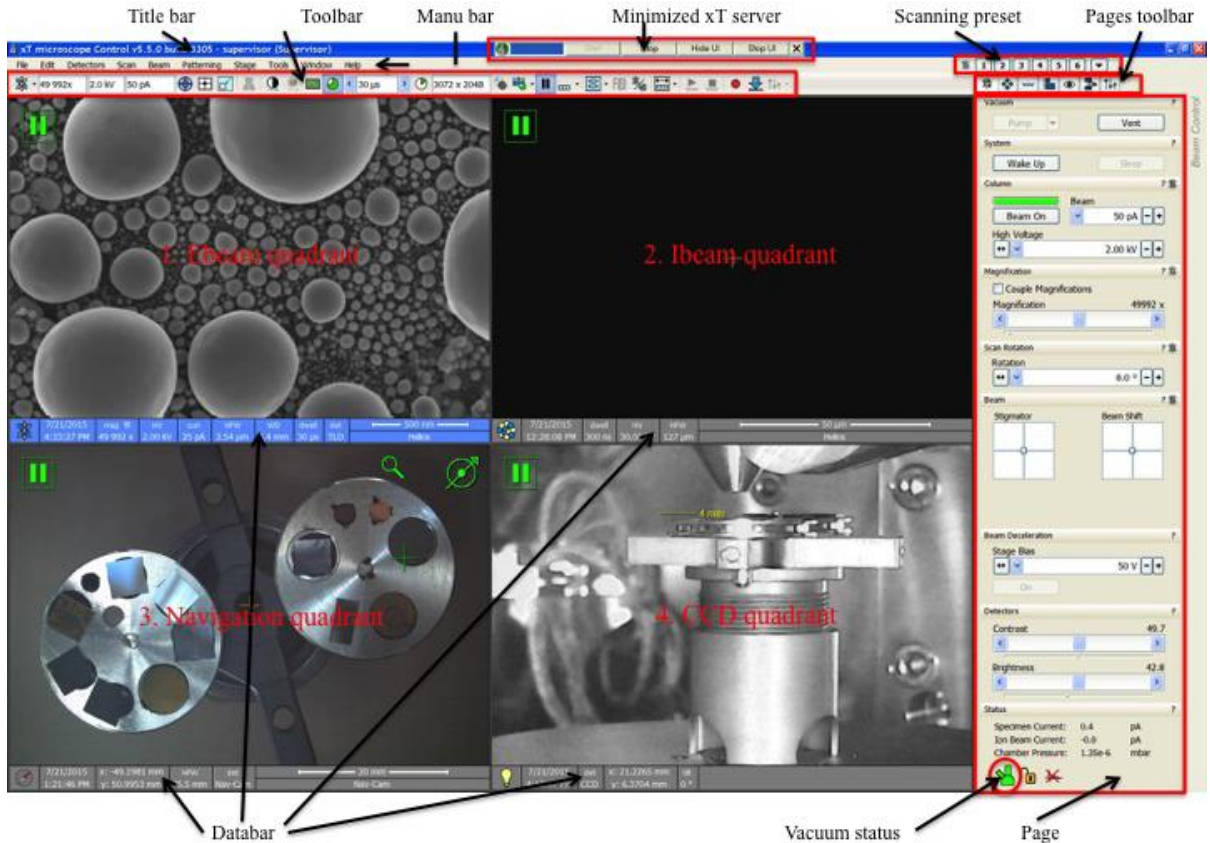

Figure 4
launch xT microscope server (Figure 2). Double click the blue area to show full view (Figure 3): Make sure that indicators for **Console devices**, **Motion NODE1**, **Motion NODE2** and **Imaging** are green in the right panel. Click “Start UI/Stop UI” button to start/stop UI. During starting UI a log-in window will pop-up for you to log in. Username and password are both “supervisor”. Full view of xT UI (also called xT microscope control) is shown in Figure 4.
3. Check the vacuum: all three parts of microscope icon in the lower right corner of the main xT UI are green (Figure 4).
4. Check the CCD quadrant (must be live): the stage is 0° tilt; there is enough distance clearance between stage (no tilt) and the pole piece (stage must be below the 4mm line); retractable parts (GIS needle and Easylift probe) should be retracted (Figure 4).
4. Close chamber door fully and click **Pump** button in Beam Control  page of UI. Wait until all three parts of microscope icon in the lower right corner of the main UI turn green (Figure 4). It is recommended to wait until the chamber pressure is below **4e-5** mBar (Figure 4).
2. Click Ebeam quadrant, select proper HV (start with 2kv or 5kv), current (start with 25 pA), dwell time (300 ns for searching), resolution (start with 768 x 512) and filter mode (average 4 frames). Click **Beam On**  button to turn it in yellow. Click Pause button  in Toolbar (Hotkey: F6) to start scanning and watch live image in Ebeam quadrant. Reduce magnification if needed and locate a visible feature on the sample surface. Adjust **Brightness/Contrast** knobs using SEM control panel or use auto contrast and brightness button  in Toolbar (Figure 4) to obtain clear image.
9. Multiple detectors set up: It is possible to use up to three detectors simultaneously in Ebeam imaging (quadrant 1-3, always keep quadrant 4 for chamber CCD). Most frequently used combination is ETD for SE, Mirror Detector (MD) for Backscattered Electron (BSE), In-column Detector (ICD) for BSE. If sample is not tilted, a two detector combination is often used: ETD for SE and retractable CBS detector for BSE. Shift + left click  to control scanning in all detectors simultaneously.
10. SmartScan can be setup by right click any one of 1 through 6 button in Scanning Preset (Figure 4). Right click any number (**1 through 6**) and choose **edit** to bring up smartscan setting window (Figure 11). Choose shorter dwell time (< 500 ns) and integrate 2ⁿ frame (normally 32 to 256) to generate the final image. This is an efficient strategy to avoid charge build-up for non-conductive samples. Another one is to choose low HV(1 kV, 500V, 350V) and beam current (25 pA, 7.7 pA, 1.1pA). Press **Ctrl** button and click on selected Smartscan button to acquire an image.